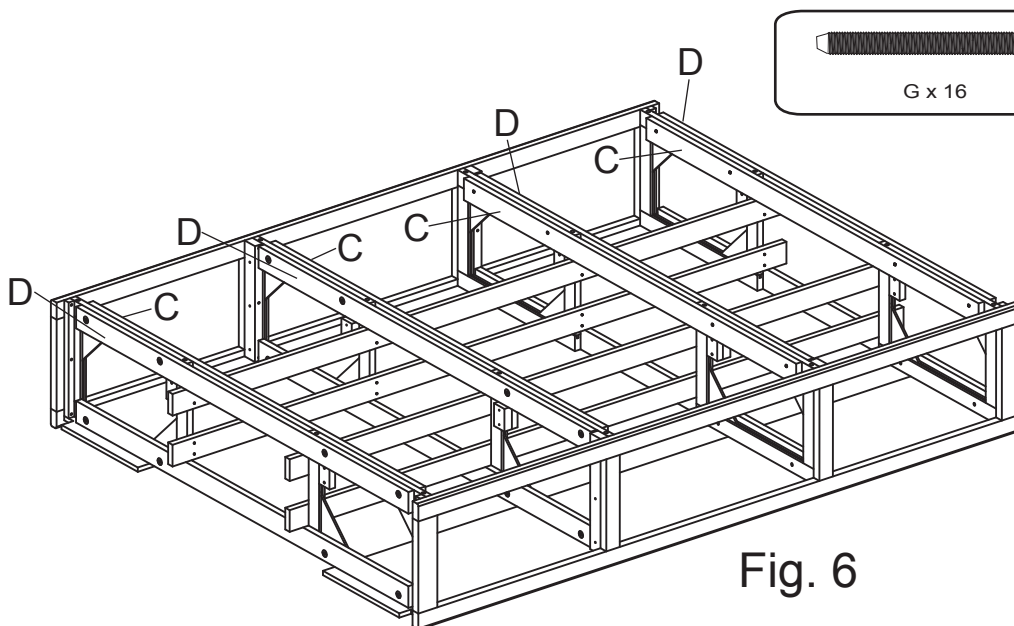

Fig. 6
6. Place the remaining Trestles (C and D) on the Pedestal Assembly. Face the Trestles with T-Nuts (D) toward the ends of the Assembly from the center as shown in Fig 6. Insert 2½" Hex Bolt (G) and Washer (H). See Fig. 6b. **DO NOT TIGHTEN BOLTS UNTIL FINAL ASSEMBLY IN STEP 10.**